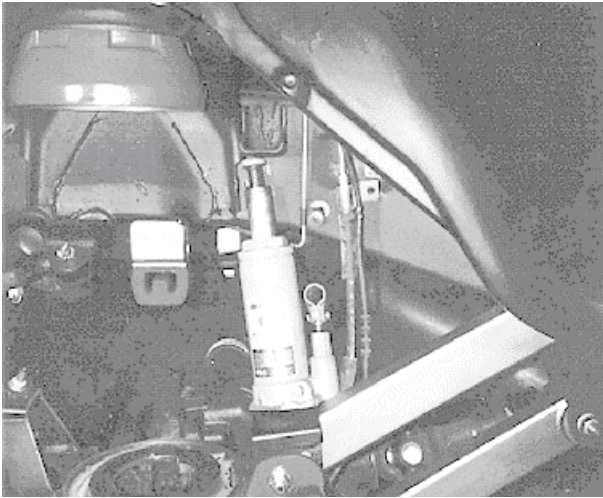

fig. 10
25. Carefully lower the floor jack and axle then place a bottle jack between the outer (unused) bump stops to assist in the re-installation of the springs. Extend the jack (**be careful not to stretch brake lines**) until there is just enough clearance to place the OEM STOCK springs between their original lower perch and the rubber isolator in the spring spacer. **Refer to fig. 10**
28. Place the upper shock mount # 104165 for the left side and the # 140164 for the right side of the vehicle on top of the spring pocket. Align the mounts so that the shock tabs point toward the rear of the vehicle and the three holes line up with those on the spring pockets. **Refer to fig. 10**